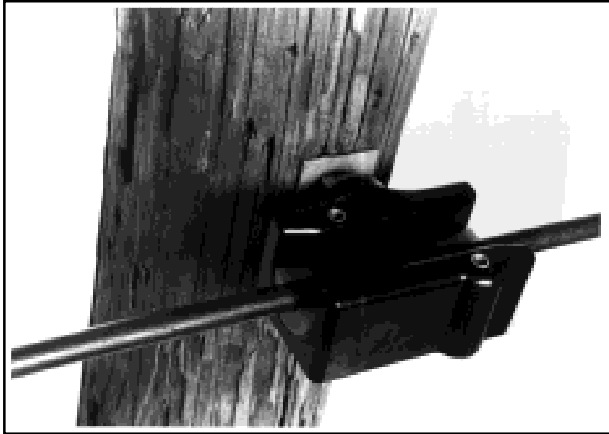

FIGURE 4
4.04 For permanent installations, lay the bottom insert into the body, and place the cable into the groove of the insert. (Figure 4)